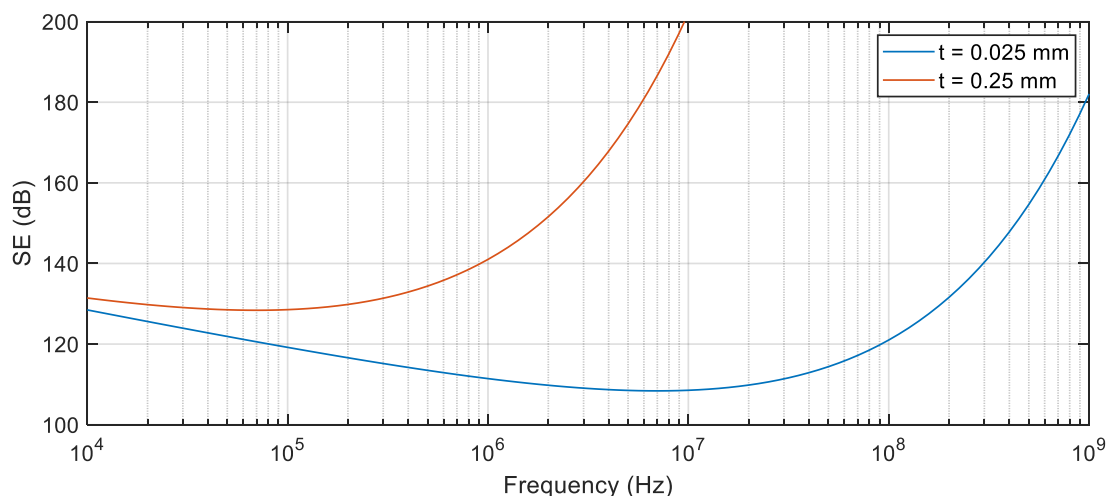

Figure 1. Shielding effectiveness versus frequency for two copper sheets of thickness  $t = 0.25 \text{ mm}$  and  $t = 0.025 \text{ mm}$ .
- ii) Fig. 1 shows the SE of two copper sheets with thicknesses of 0.25 mm and 0.025 mm. Which thickness is recommended? [**Hint:** some margin is needed.]